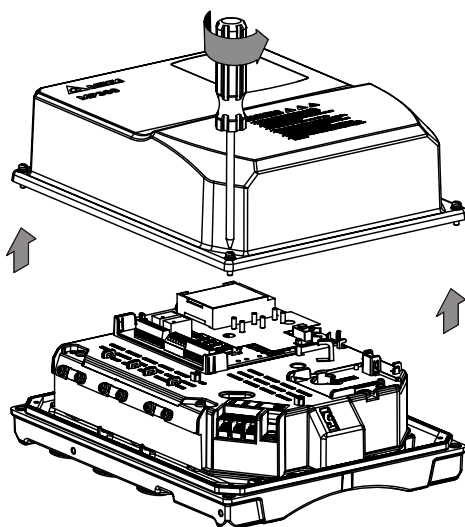

Figure 8-4
1. Turn off the power of the motor drive, use cross screwdriver to loosen four screws of the front cover and then remove it, as shown in Figure 8-4.